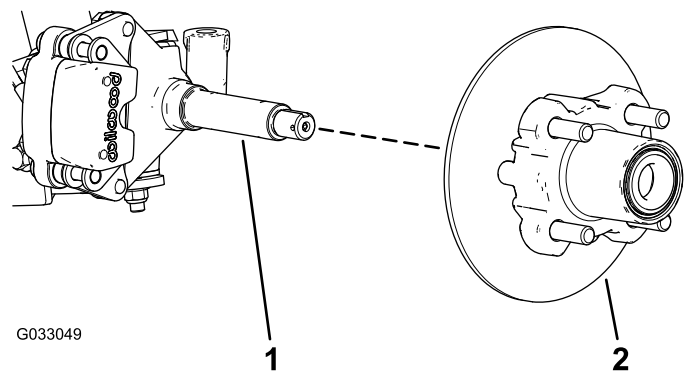
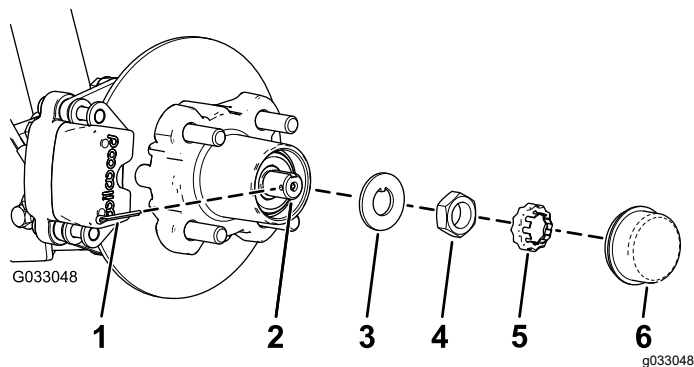

Figure 25
Figure 24
4. Remove the dust cap from the hub (Figure 24).
5. Remove the cotter pin and nut retainer from the spindle and spindle nut (Figure 24).
6. Remove the spindle nut from the spindle, and separate the hub and rotor assembly from the spindle (Figure 24 and Figure 25).